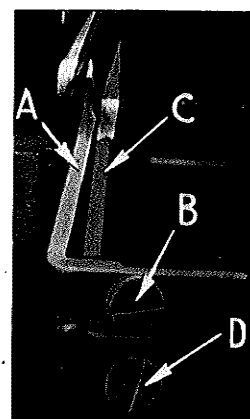

Fig. 7
Set rear needle guard (A, Fig. 7) as high as possible, without interfering with either lower looper or movement of lower knife holder, but still in position to deflect needle or needles forward .002-.004 inch (.051-.102 mm). Screw (B) is used to set rear needle guard. Make sure there is no interference between rear needle guard and lower looper.
Assemble front needle guard (C, Fig. 7). When lower looper is springing needle off rear needle guard, set front needle guard as close as possible to needle without touching. Screw (D) is used to adjust and set front needle guard. After this setting make sure there is no interference between needle guards and differential feed dog.